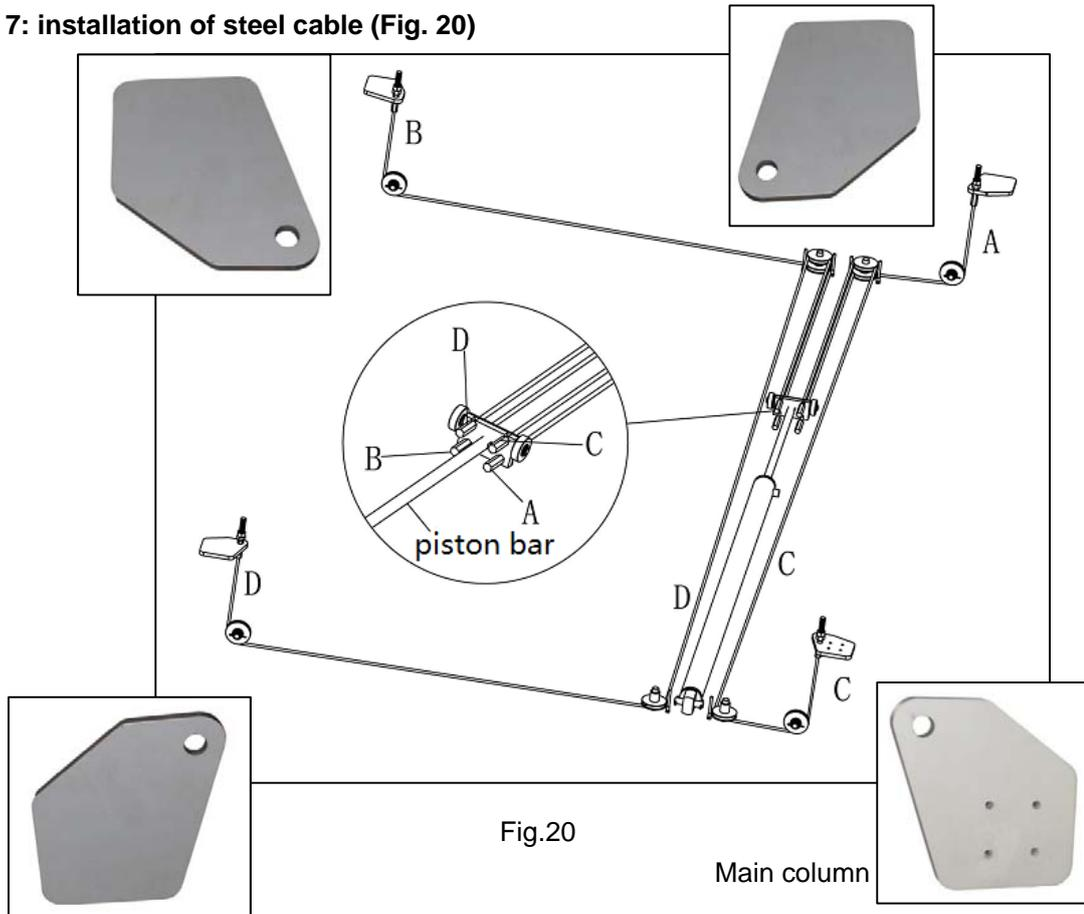

Fig.20
Step 7: installation of steel cable (Fig. 20)